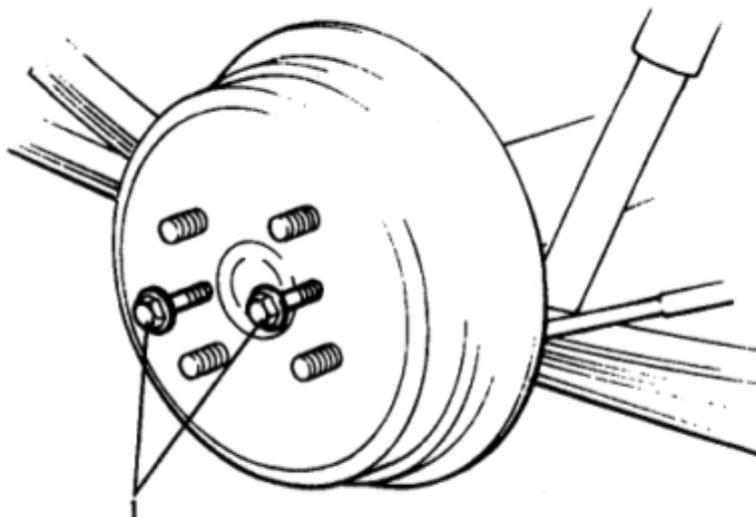

FIG 13-3
(4) Remove four bolts and nuts connecting propeller shaft flange and rear axle flange to release propeller shaft and rear axle.
(5) Remove wheel nuts and wheels.
(6) Install two bolts with proper length into brake drum screw holes and push half-axle out from brake drum. (FIG.13-3)